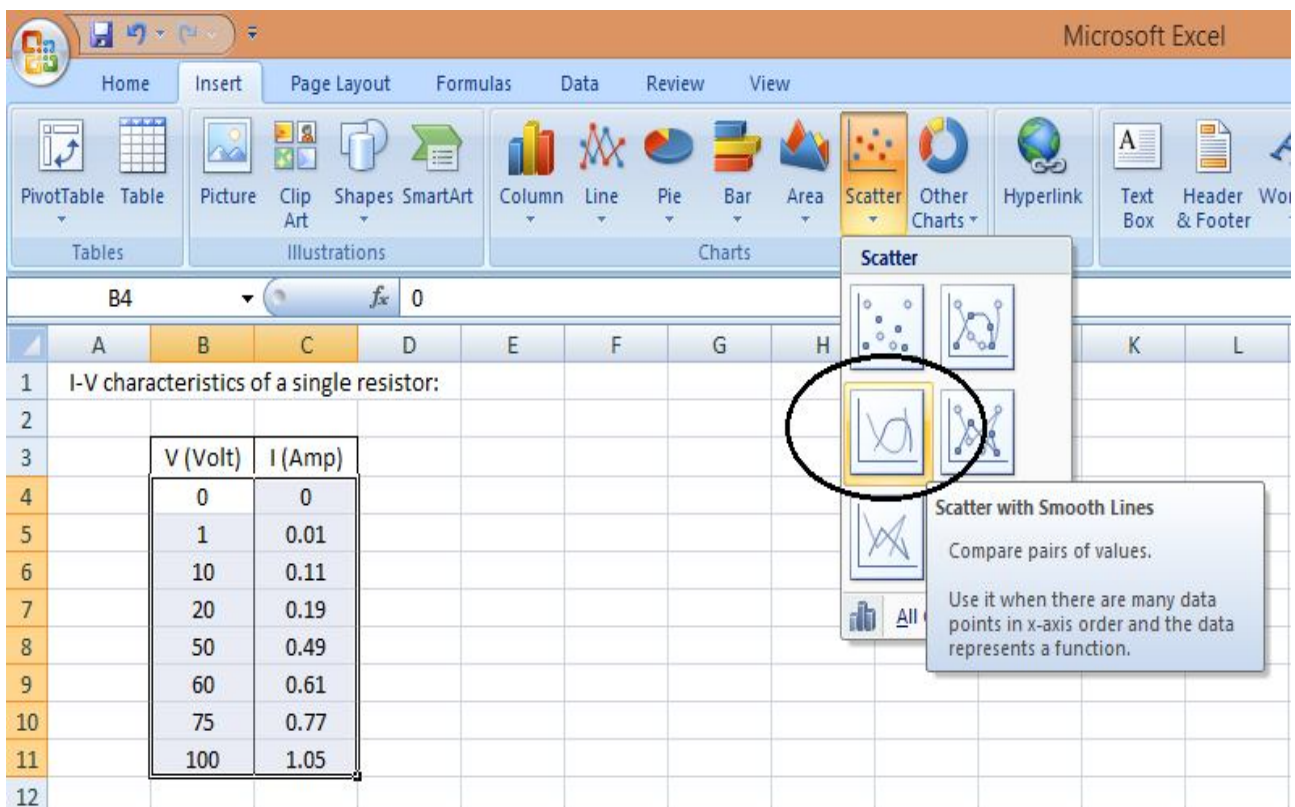

Figure 3
3. Again under "scatter" you have options like 'markers only' or 'smooth/ straight lines with/ without markers' and so on. Use the 'smooth lines without markers' option, this would reduce the mess. Refer Figure 3.